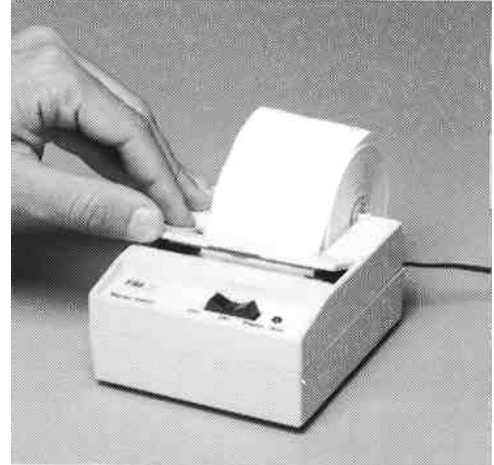

Figure VIII-10. Installing the printer cover
Step 8. Push the back of the printer cover down and into place (fig. VIII-10).